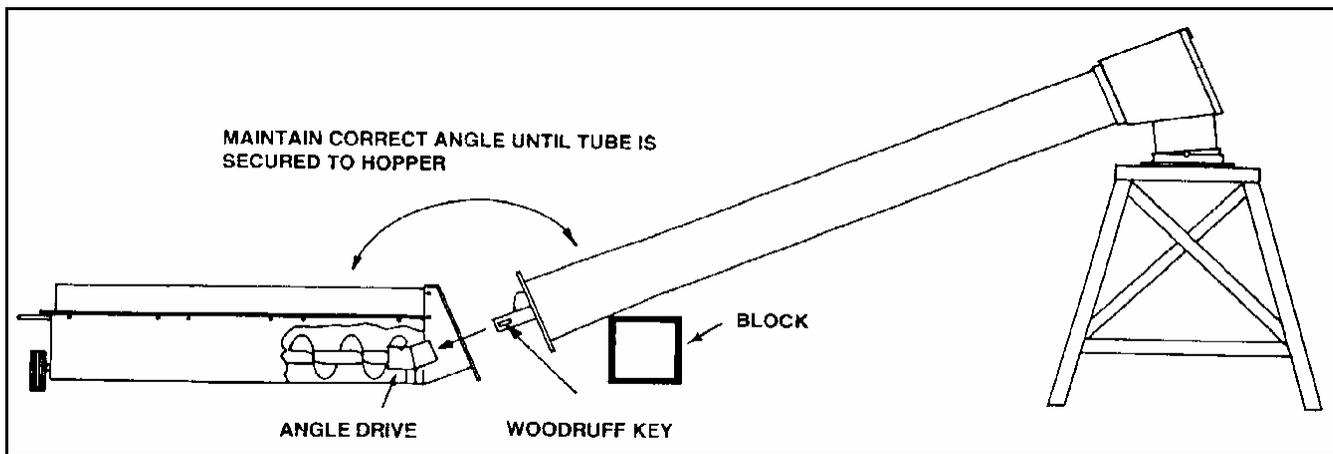
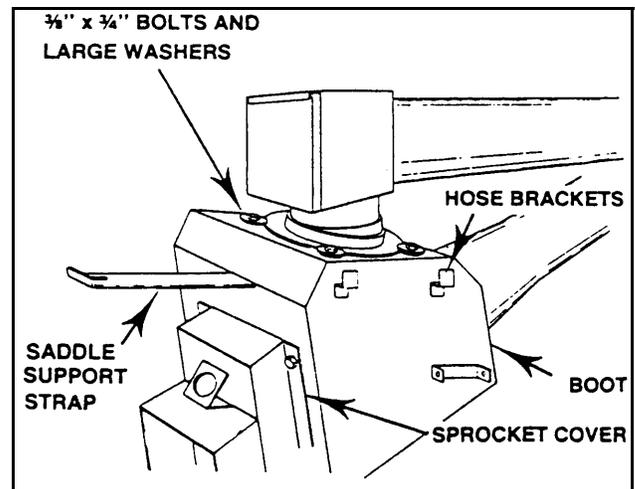

Figure 3.23
Figure 3.25
See Figure 3.23 and Figure 3.25.
- b. Install 4 large washers with 3/8" x 3/4" bolts to keep intake hopper in place on the boot (Figure 3.25).